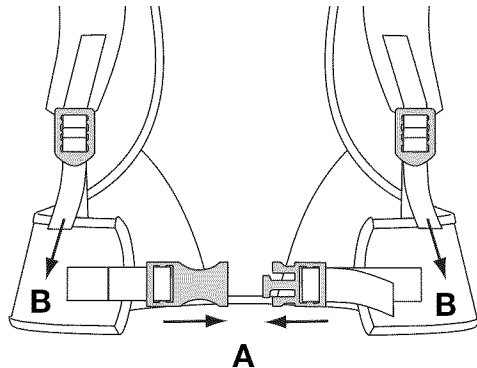

Fig. 14
2. Close the suspension system's waist support by sliding the waist support clips together (Fig. 14, A).
4. Pull the shoulder support handles to tighten the shoulder supports (Fig. 14, B).